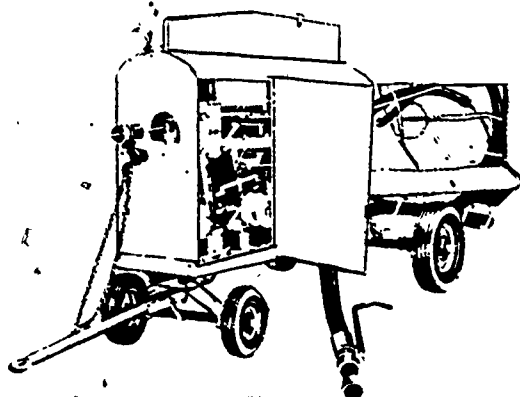

Figure 5-10A. Typical power sewer auger.
**Maintenance of Main Sewer.** There are two types of maintenance for main sewers which will concern you. They are recurring and emergency maintenance. Recurring maintenance is scheduled into the shop on an annual basis. The time of year you perform this type of maintenance will depend upon the geographical location. In areas where the snowfall is several feet annually, it would not be practical, to perform recurring maintenance in midwinter, not so much because of the extreme cold weather, but the time it would take to locate and remove the snow from the manhole covers. During recurring maintenance is the time to check for flow levels and clean debris from manholes. Should a partial stoppage be found, it should be removed, either with a sewer auger or a pressure sewer cleaner (see figs. 5-10A and 5-10B).
Once the trouble has been determined, you should make the necessary repairs. Let's say you have found a restriction or stoppage in the main sewer. This can be dealt with, in short order, with a power sewer auger. Figure 5-10A illustrates a typical power sewer auger used to remove main sewer stoppages.